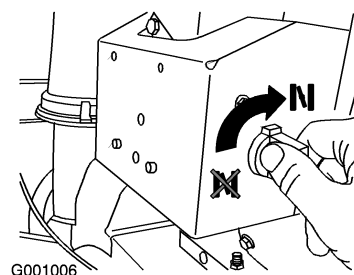

Figure 22
4. Rotate the choke to the On position (Figure 22).